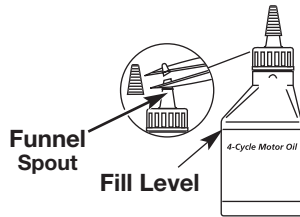

Fig. 9
Your unit is supplied with one 3.04 fluid oz. (90 ml) bottle of SAE 30 SJ oil (Fig. 9).
NOTE: Save the bottle of oil. It can be used to measure the correct amount during future oil changes (Fig. 9). See *Changing the Oil*.
1. Unscrew the top of the bottle of oil and remove the paper seal covering the opening. Replace the top. Next, cut the tip off the funnel spout (Fig. 9).